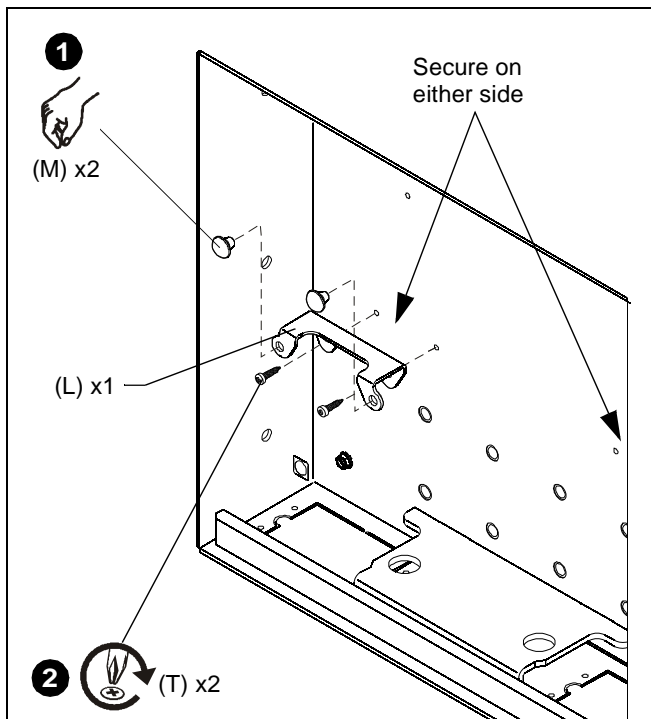

Figure 5
1. Install two bumpers (M) to bumper mounting bracket (L). (See Figure 5)
2. Secure bumper mounting bracket (L) to in-wall enclosure on whichever side the arm is going to be retracted, using two Phillips pan head screws (T). (See Figure 5)